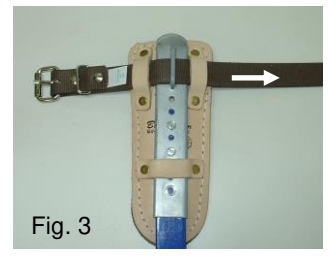

Fig. 3
3. Insert climber strap through both pad loops and sleeve loop (Fig. 3).